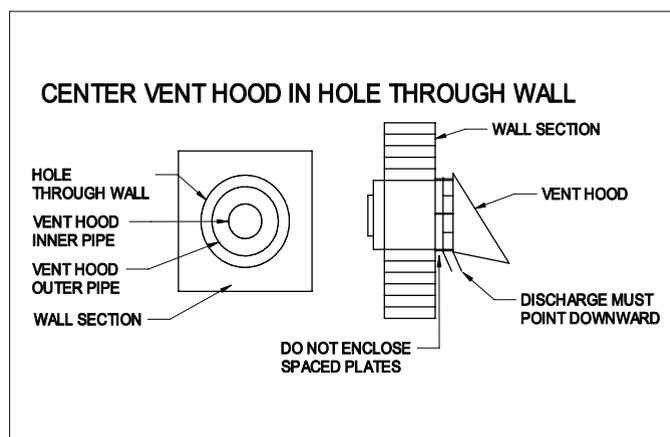

Figure 4
1. Use the inside wall plate as a template to mark the hole location. Cut a 1" larger than the marked hole to facilitate easy installation (See Figure 4).
4. Time the burn cycles and adjust as follows; To make the cycle time longer, increase the amount on the anticipator (Example: .45 to .5 Amps); to decrease cycle time, reduce the amount on the anticipator (Example: .45 to .3 Amps) (See Figure 4)